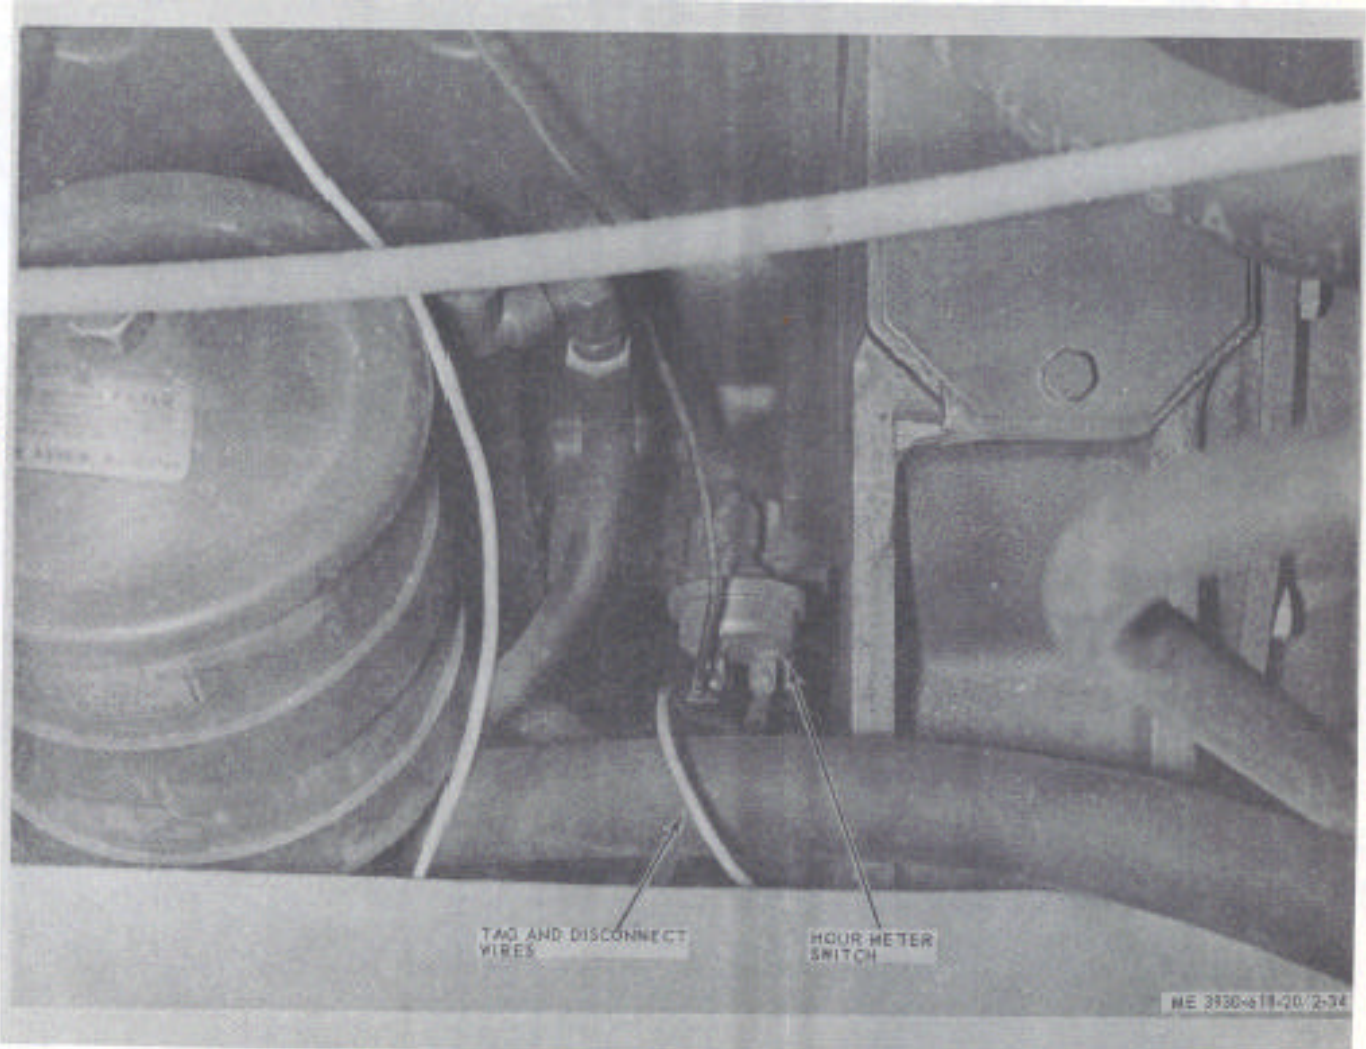

Figure 2-34. Hour meter switch, installed on engine. Reverse procedure in c above.
c. Removal. Refer to figure 2-34 and remove the hour meter switch as follows:
- (1) Tag and disconnect the wiring.
- (2) Remove the hour meter switch.